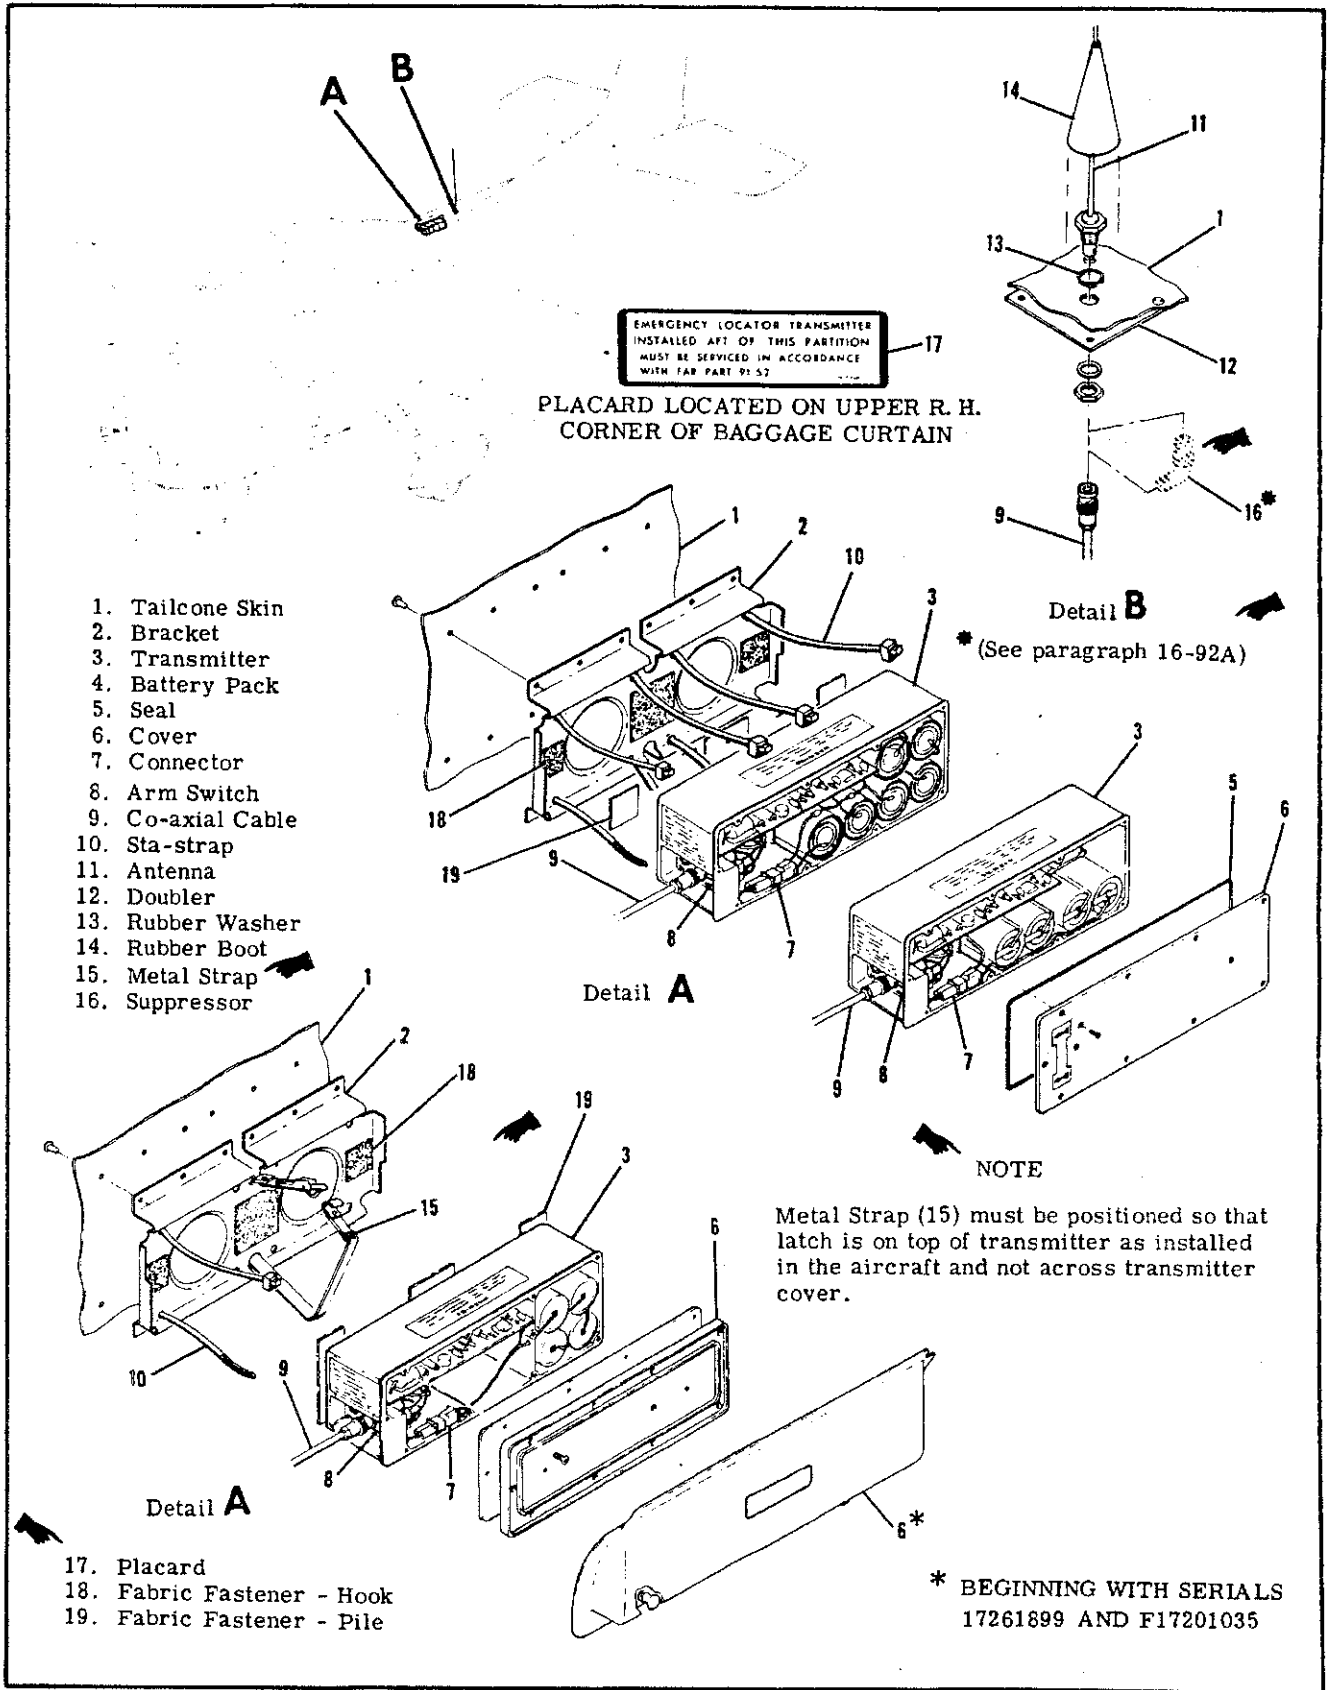

Figure 16-13. Emergency Locator Transmitter Installation
**16-92. REMOVAL AND INSTALLATION OF TRANSMITTER. (Refer to figure 16-13.)**
**16-92A. REMOVAL AND INSTALLATION OF ANTENNA. (Refer to figure 16-13.)**
In-service 6 cell magnesium battery-pack powered ELT's require the installation of a static electricity suppressor in the antenna cable to prevent the possibility of damage to the case of the ELT. Refer to Cessna Avionics Service Letter AV74-16 and figure 16-13.